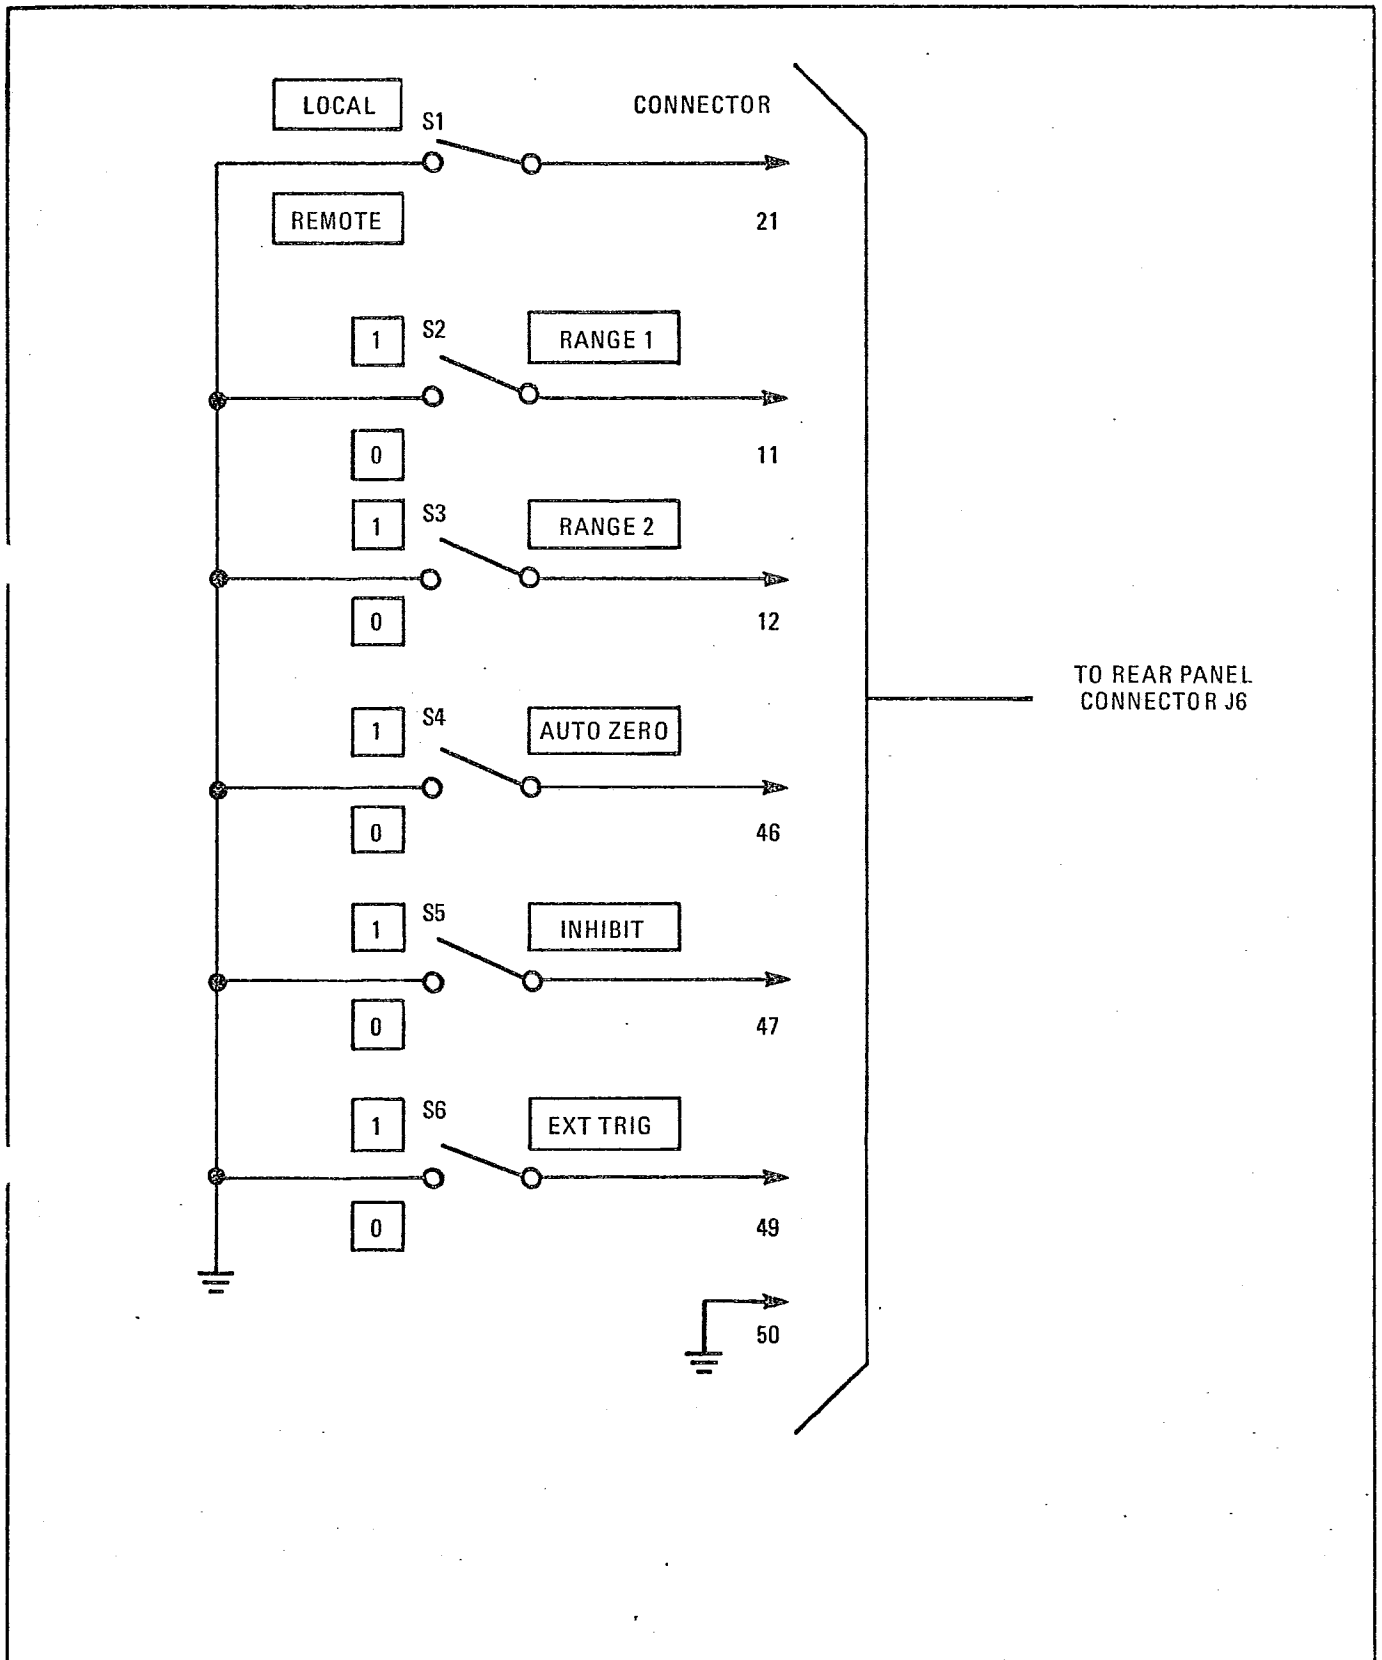

Figure 5. Remote Control Test Set
- Remote Control Test Set (See Figure 5)
k. To assemble the remote control test set, obtain wire, SPST switches, mounting board or box, and connector (Cinch 57-30500-375). Assemble as shown in Figure 5.